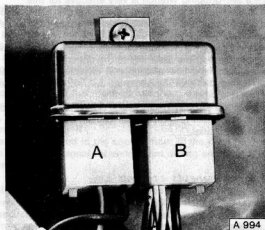

Fig. 13.68 Relay combination (Sec 8)
- 133 Disconnect wiring harness plug 'A' and fuel injection system plug 'B' (Fig. 13.68).